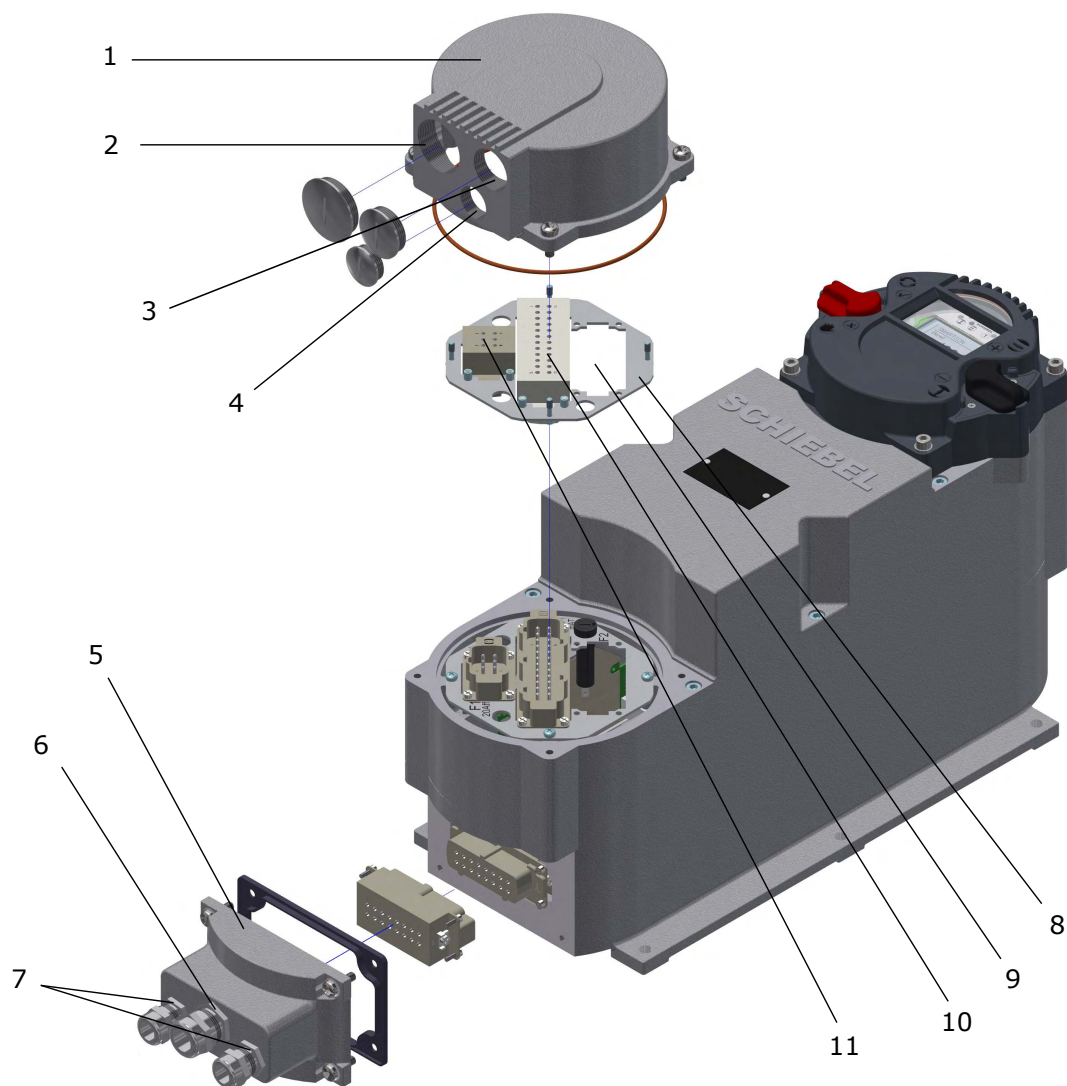

Figure 108: Connection normal version
- In standard design then connection of control signal and motor are made via plug (see Figure 108) with screw (In = 16A): The maximum conductor cross-section is 2,5mm²